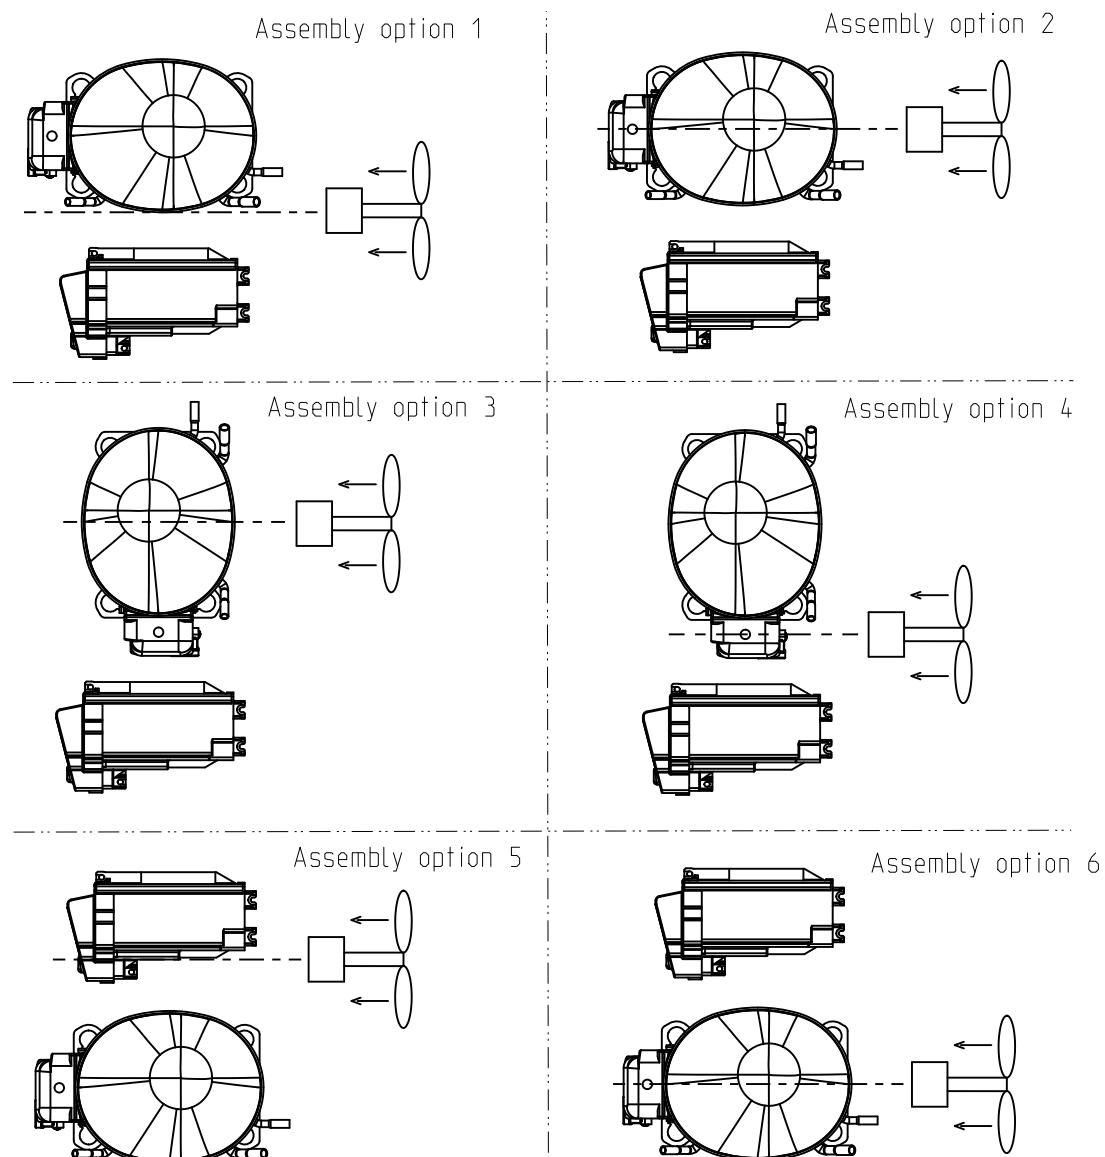

Figure 3.5: Air flow directionⁱ
Recommended position of fan + compressor + inverter are shown in the Figure 3.5. All mentioned positions are acceptable. Considering specific aspects as inverter and motor-compressor cooling, the most recommended are positions 1-4. The last recommended but still acceptable are positions 5 and 6.
- The electronic Inverter must be installed in the vertical position. Refer to Figure 3.5 for recommended assembling positions.